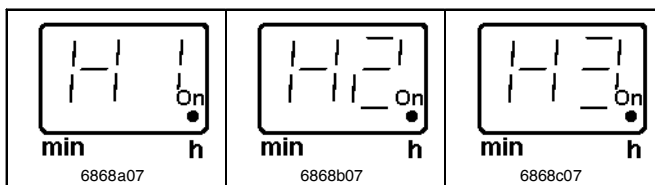

Fig. 5 Display of the current holding times
- This procedure repeats until the third holding time or until the operating pressure could be maintained within the hysteresis. In the display after the first holding time there appears " H1 ", after the second holding time " H2 " and after the third " H3 " (see fig. 5).